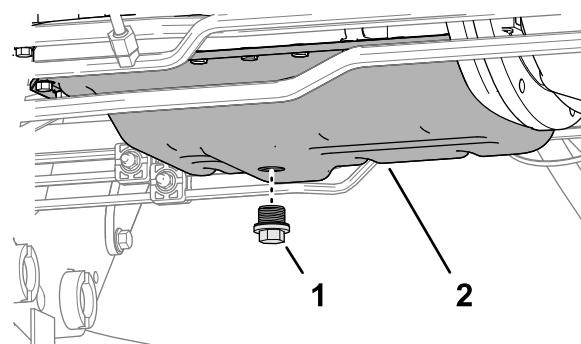

Figure 114
4. Remove the drain plug (Figure 114) and let the oil drain into the pan.